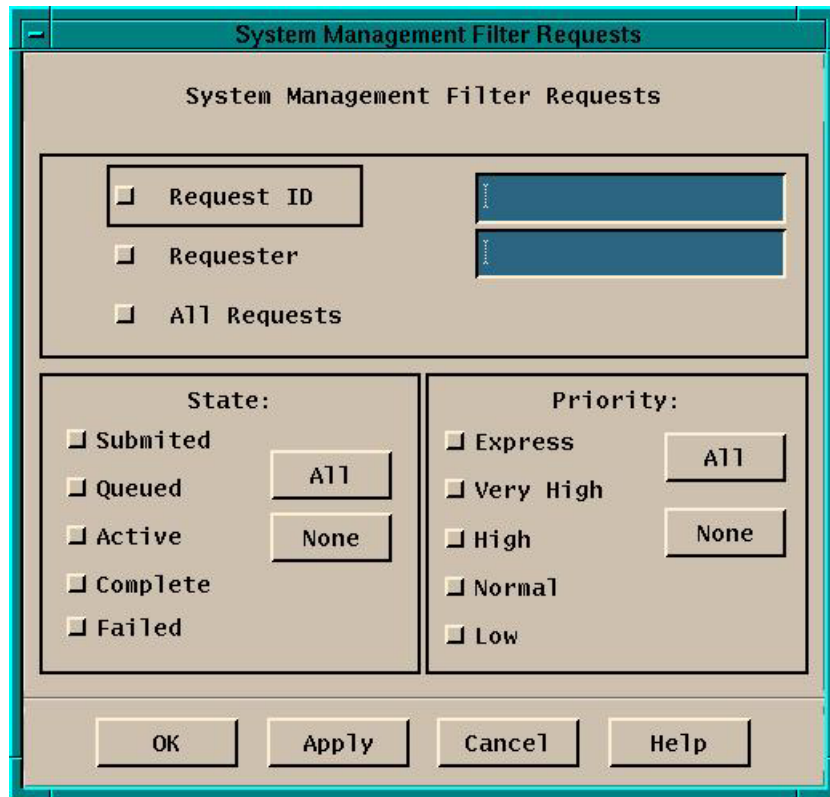

Figure 26.27.6-2. System Management Filter Requests Dialog
- **Filter...** (see Figure 26.27.6-2) brings up the System Management Filter Requests dialog which provides a selection of attributes on which to filter for the list of System-wide requests. Filter on system management requests by entering the desired information, then clicking on the Request ID or Requester radio button for the desired attribute. Return to the original list of requests by clicking on the All Requests radio button. Click on other filters associated with State and Priority by clicking on the toggle button. Filter on every attribute associated with a category by clicking the **All** button or clear a category of filters by clicking on the **None** button.